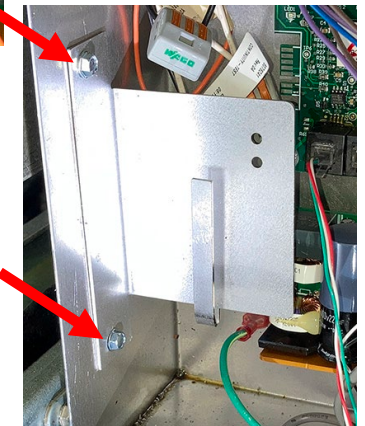

Figure 35
32. Using drill point screws, attach the modem bracket to the left side of the FIB box as shown (see Figure 35).